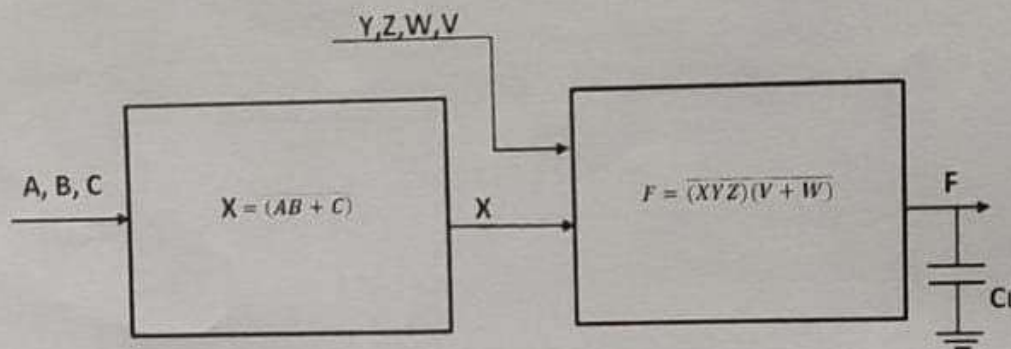

Fig. 2
Q2. Consider the circuit shown in Fig. 2 is designed in a $250\ \text{nm}$ technology node.
- Sketch and label the schematic of Fig. 2 using full static CMOS logic with minimum parasitic capacitances at output node/s.
- Sketch and label the worst case equivalent inverter representation of Fig. 2. Hence, write the expression of $(W/L)_{\text{equivalent}}$ of pull down and pull up network.
- Determine the least path delay from signal A to signal F. Hence determine the maximum frequency of operation at which the circuit of Fig. 2 can operate.
- Determine the dynamic power consumption of Fig. 2. Assume $C_{g,\text{min}} = 10\ \text{fF}$.
- Now the circuit of Fig. 2 is designed in $180\ \text{nm}$ technology using constant electric field scaling. Again, determine the dynamic power consumption of Fig. 2.